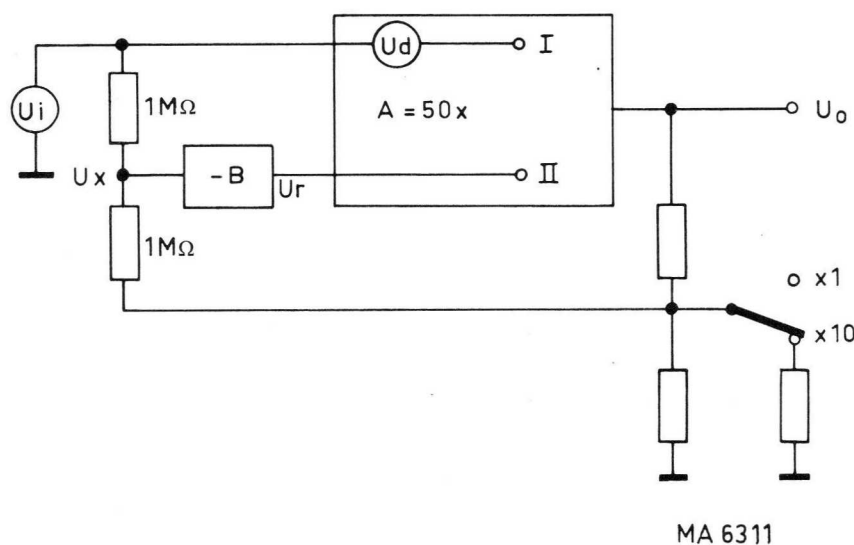

Fig. 5. Simplified diagram of the control circuit
3. Drift feedback (see Fig. 5)